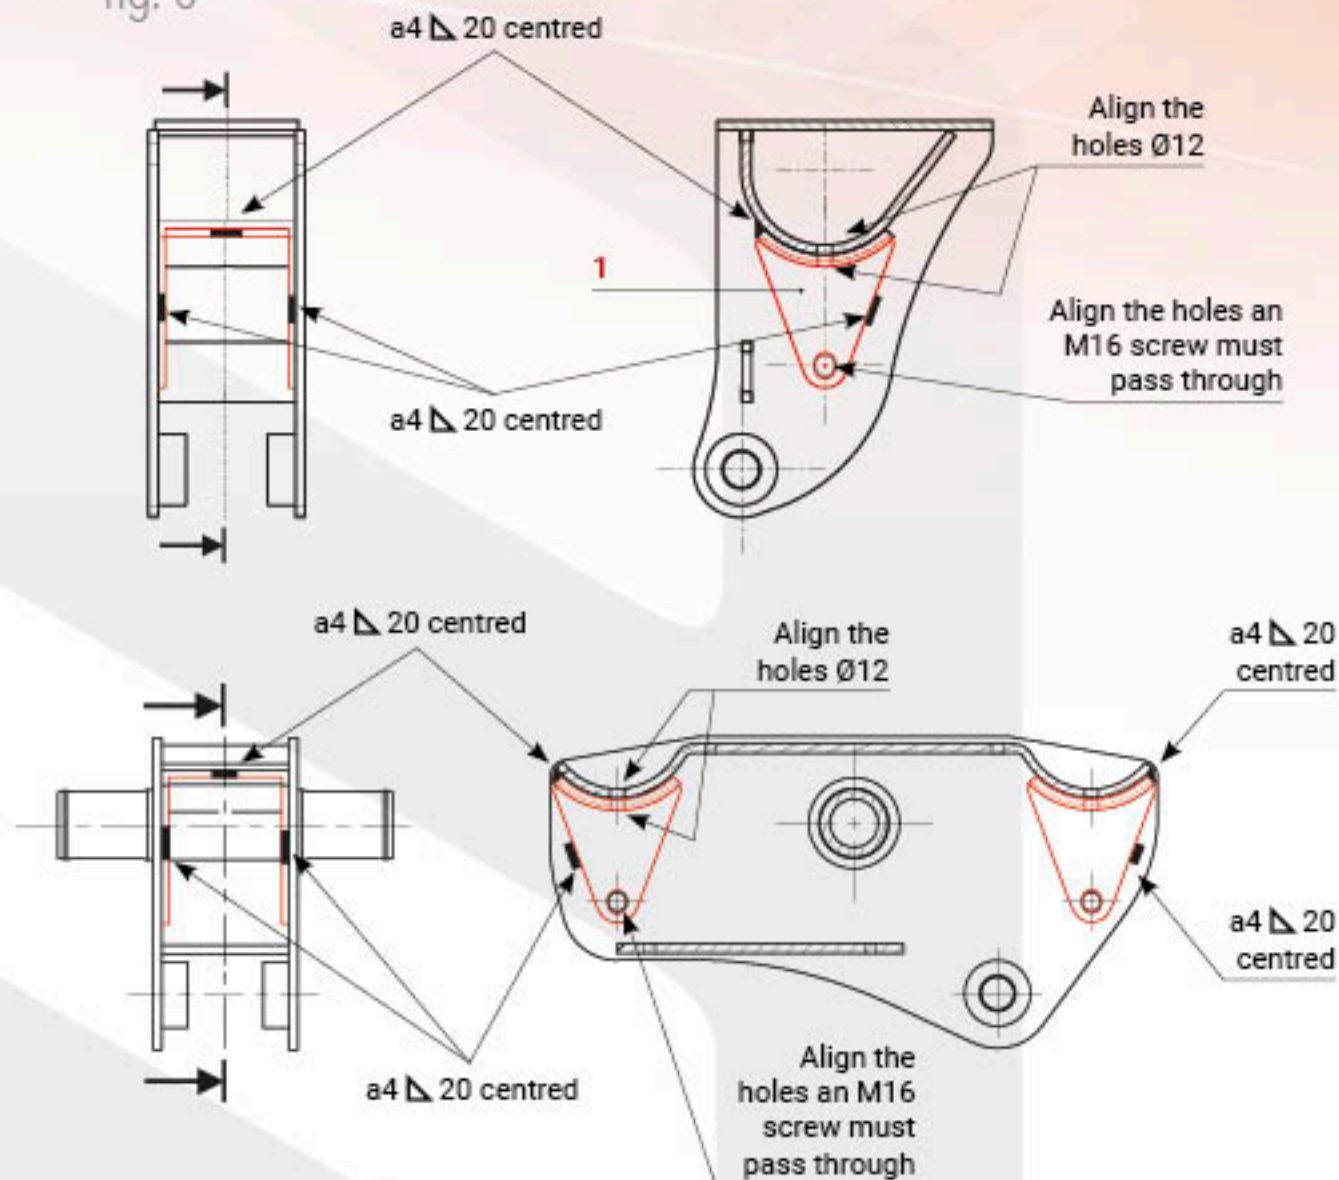

fig. 5
Assemble the new wear pads (1) and weld in accordance with the following instructions (fig. 5).